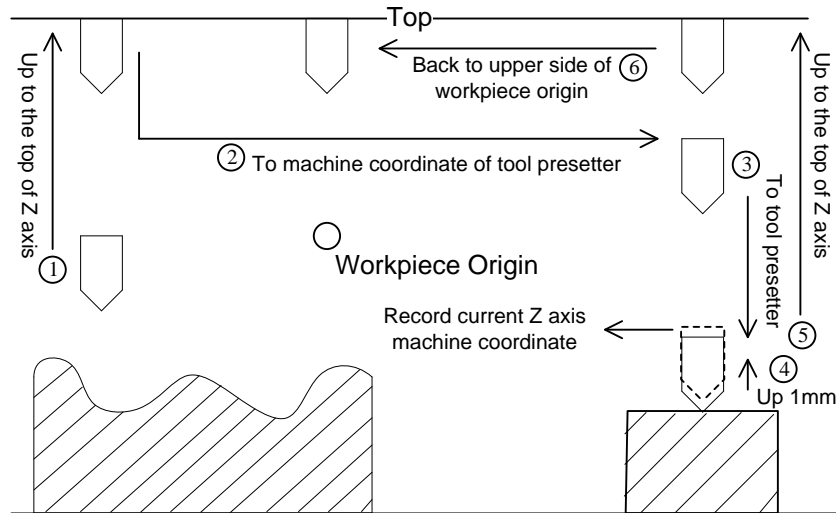

Fig. 3-26 First-time Calibration
- 2) Secondly, press F4 **ToolMea.**, and then press F1 **First Time** in the new pop-up manipulation button bar to execute first calibration. The system will record the current workpiece coordinate value of Z axis automatically, as shown in Fig. 3-26.The system will then complete the process automatically.